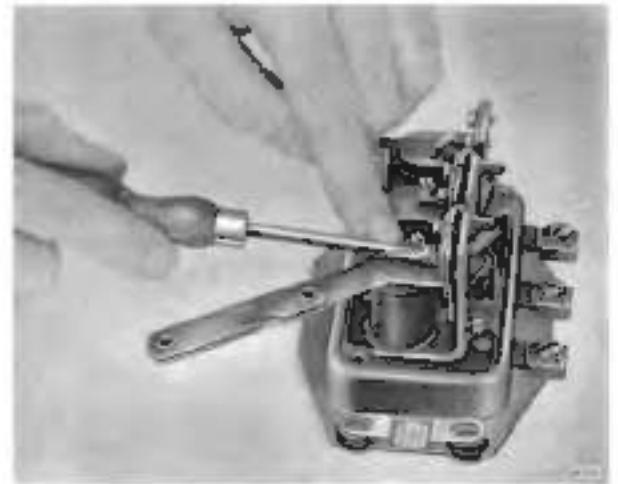

Fig. M19 Adjusting armature air gap
- (ii) Insert a 0.015 in. (0.381 mm) feeler gauge between the armature and the core shim. Press the armature squarely against the gauge (see Fig. M19) and tighten the two armature securing screws. Screw in the top (fixed) contact until it just touches the armature moving contact, then tighten the locking nut. Remove the feeler gauge and carry out the electrical settings as described above.